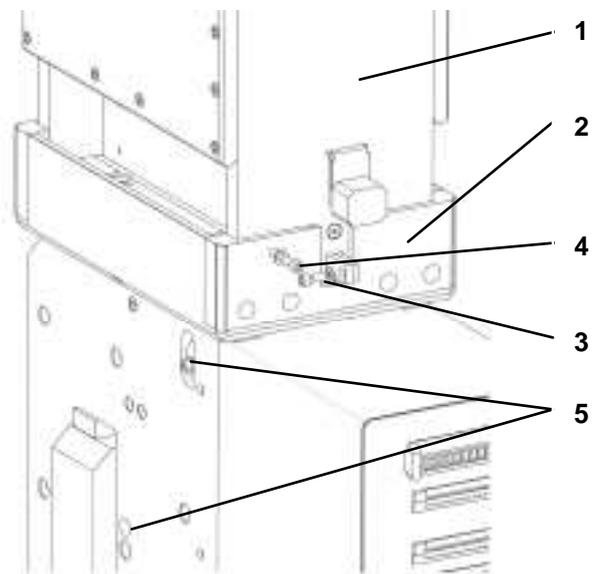

Fig. 49 Arc chute and arc runners fixing
- [Fig. 49]. Loosen the screws (3) and (4), using SW5 hexagon wrench and take off the arch chute (1) from the adapter (2).
- [Fig. 49]. Put in arc chute (1) into adapter (2).
- [Fig. 49]. Tighten front- and backside connections of the arc runners (3), including lock washer; use 10 Nm [88 in-lbs].
- [Fig. 49]. Tighten front- and backside of the arc chute connections (4), including flat washers; use 5 Nm [44 in-lbs].